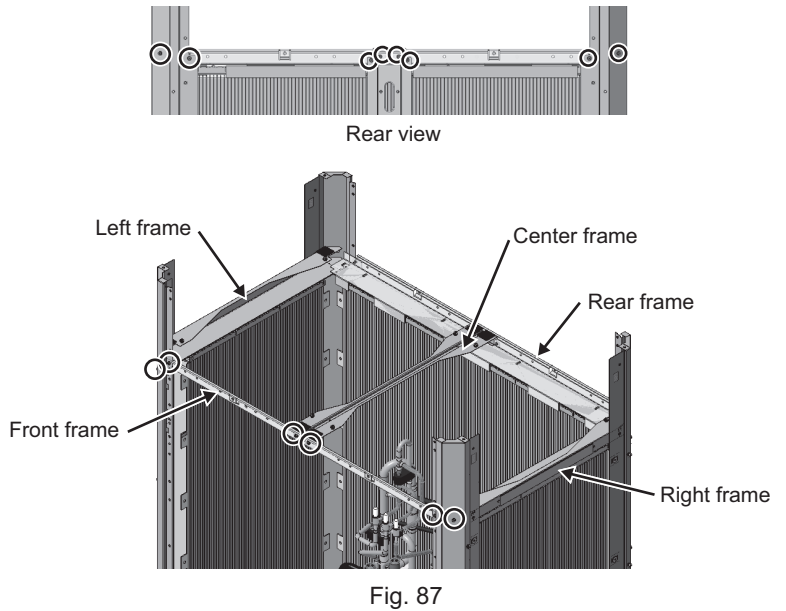

Fig. 87
(11) Remove each frame on the top of the unit. At this time, remove the screws from all frames before removing the frames. (Two screws on each of the front, rear, right, and left frames, and six screws on the center frame: Fig. 87)